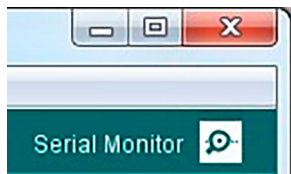

Figure 12. Arduino Serial Monitor Tool
8. Open the Arduino **Serial Monitor** tool (Figure 12). Click on the Serial Monitor button on the top right corner then the Serial Monitor window will open and show on the top left corner the **COMxx** used.